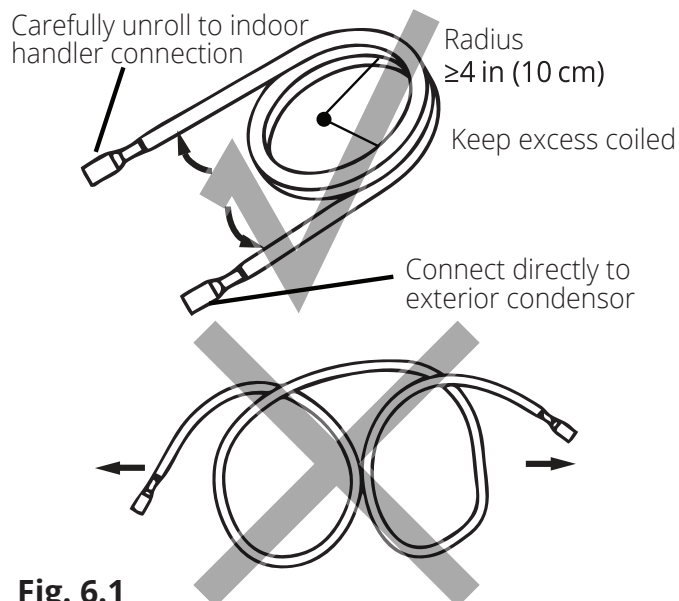

Fig. 6.1
1. Use your hands to slowly unwind the copper piping of one end of the Quick Connect® Line Set. The end you unwind will connect to the indoor unit piping. You should unwind the end until the connectors are close to flat on the ground (with little to no bend). If this is not done, it could make the line set difficult to maneuver when aligning the connectors with the air handler piping. Only unwind as much as necessary for your application, and allow any excess to remain coiled (**Refer to Fig. 6.1**).
When bending connective refrigerant piping, it needs to have a minimum bend radius of 4 inches (Refer to Fig 6.1).